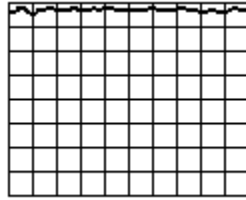

Figure 11. Frequency range.
- (1) Connect TI tracking generator **RF OUT 50Ω** to TI **RF INPUT 50Ω**.
- (2) Connect TI **1st LO 50Ω OUTPUT** to TI tracking generator **1st LO IN**.
- (3) Connect TI **2nd LO 50Ω OUTPUT** to TI tracking generator **2nd LO IN**.
- (4) Adjust TI **VAR dB** control to **0**.
- (5) Set TI **OUTPUT LEVEL -dBm** to **00**.
- (6) Press TI **BLUE SHIFT** then **RESET** keys.
(7) Displayed trace must begin at left edge of TI CRT (100 kHz) and extend to right edge of TI CRT (1.8 GHz). See example in figure 11 below.